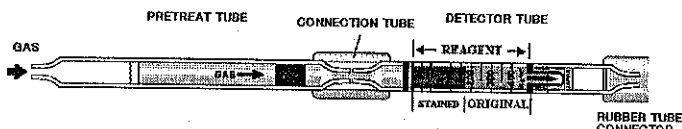

Fig. 1
- ② Connect each end of the detector tube and pretreat tube with connecting tube as shown in Fig. 1.
- ③ Connect the detector tube into the rubber tube connector of the Model S-21 or 23E air sampler as shown in Fig. 1 (Arrow marks shall point to the sampler.), and fix it into the detector tube holder.
- ④ Turn ON power of the air sampler.
- ⑤ In accordance with instruction manual of each air sampler, preset the TIMER at 30 minutes and adjust the flow rate at 100mL/min.
- ⑥ After completion of sampling (30 minutes), remove the detector tube from the tube holder and read the scale at the maximum point of a stained layer.
- ⑦ When the concentrations are over the scale range (400 $\mu\text{g}/\text{m}^3$), 15 minutes sampling time can be used to determine these higher concentrations. In this case, the following equation is available to obtain a true concentration. True concentration = Temperature corrected concentration × 2.3